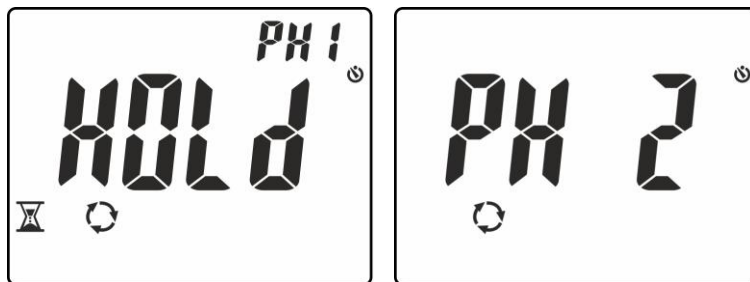

Fig. 14: Detecting phase L1 and waiting for phase L2
4. In conditions of correct voltage and frequency, the instrument shows message “**HOLD**”, symbols and “PH1” and the buzzer sounds continuously, waiting for a stable voltage value on phase L1 to be detected (see Fig. 14 – left side).
5. **Do not remove the lead from phase L1** until message “**PH 2**” appears flashing on the display (see Fig. 14 – right side)